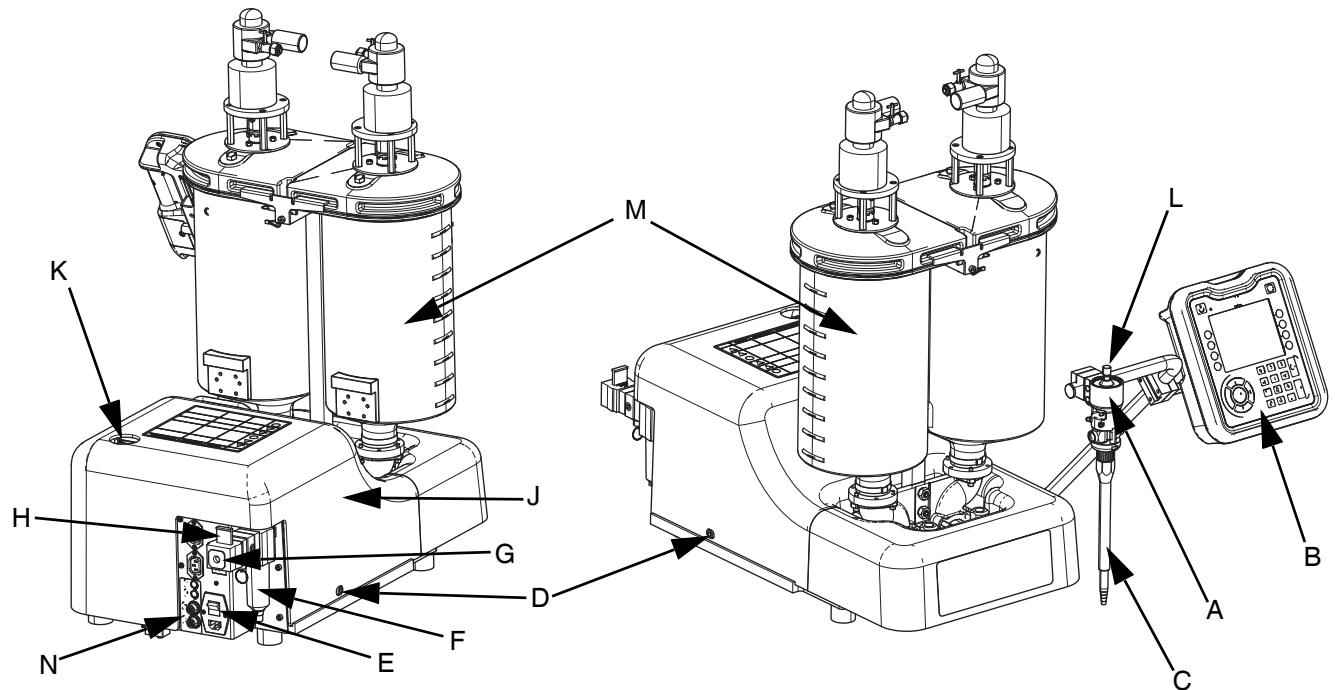

FIG. 1: Typical Fixed Ratio PR70f (Without Hoses)
1. Connect a compressed air line to the air inlet at the back of the machine. Refer to FIG. 1 on page 7 for the location of the air inlet.
1. Locate the power switch at the rear of the machine and turn the power on. Refer to FIG. 1 on page 7. The display module will automatically turn on and begin to load.
2. With the air line connected to the machine, slide up the system air pressure relief switch (see FIG. 1). It is the yellow tab on the air inlet at the rear of the machine. The hole in the tab should not be showing.